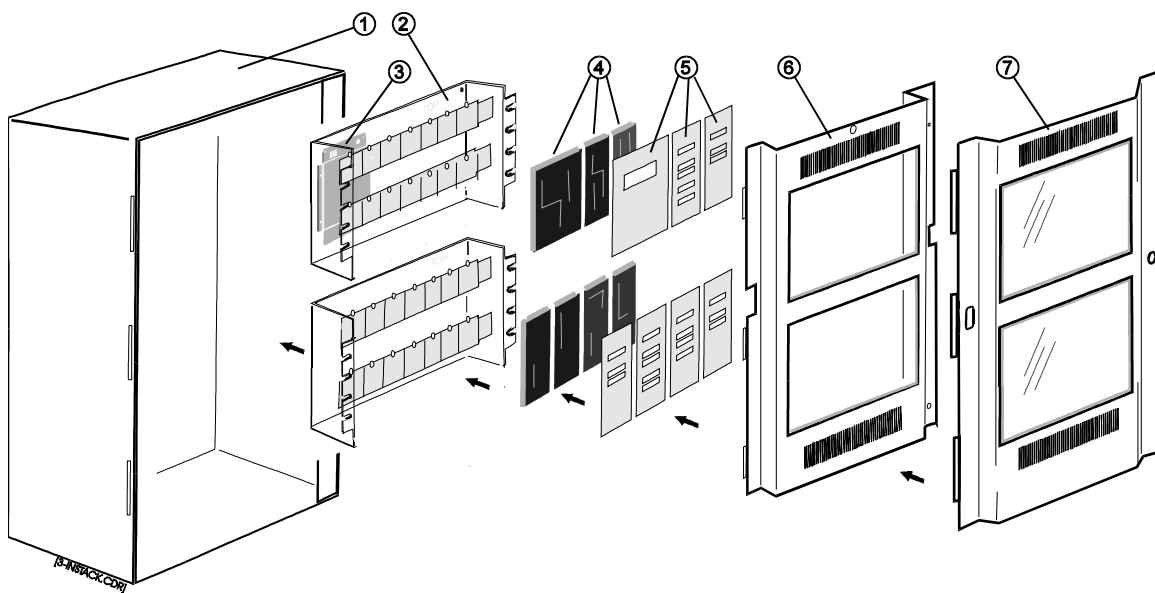

Figure 1-1: Exploded CAB series cabinet equipment installation
The EST3 system is assembled in layers as shown in Figure 1-1. The cabinet (1) houses all the system components. A variety of cabinets are available for as few as 5 and as many as 21 modules. A 3-RCC14 cabinet is illustrated in Figure 1-1.